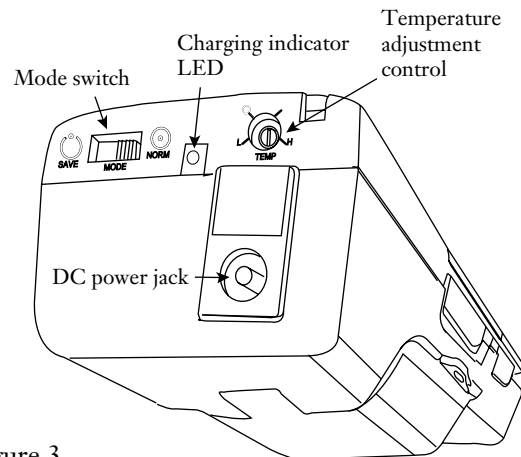

Figure 3
3.3 To charge the battery, connect the DC cord from the AC/DC power supply into the stripper's DC power jack and then plug the power supply's AC cord into an AC power outlet. The stripper's charger LED will come on (Figure 3). After approximately 150 minutes, the battery will be fully charged and the LED will go out.
3.4 Normal battery operation of the stripper is approximately 5 hours. A "Save" mode incorporated in the stripper can maximize battery life between charges. Flip the switch from its factory-set "NORM" position to "SAVE" to access this feature (Figure 3).
**3.8** The operating temperature of the Thermal Stripper's heater is factory-set for optimal performance. To increase or decrease the temperature, use a small slotted screwdriver to rotate the temperature adjustment control (see Figure 3).